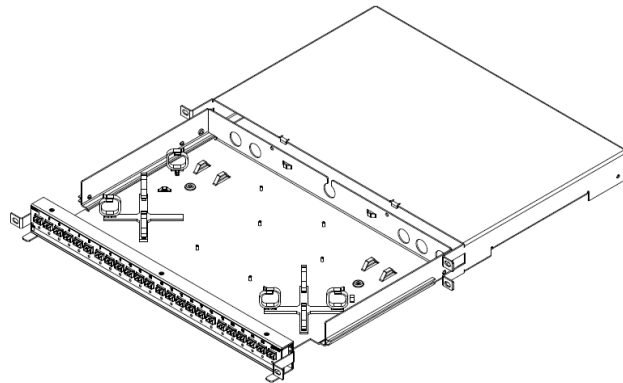

Figure 4 - Assembly of cable management spools
3. Assemble and insert cable management spools as shown in Figure 4. Cable management spools are included with the hardware accessory kit supplied with the panel.